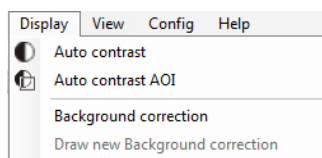

Figure 29: Enable Auto Contrast from the menu bar
- The first way is to go to the menu Display > Auto contrast (Figure 29), that will enable the feature permanently until the item in the menu is deselected again.